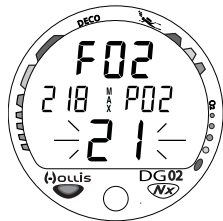

Fig. 19 - FO2 set for AIR
- Release the button when the FO2 screen appears with the Set Point flashing (Fig. 19).